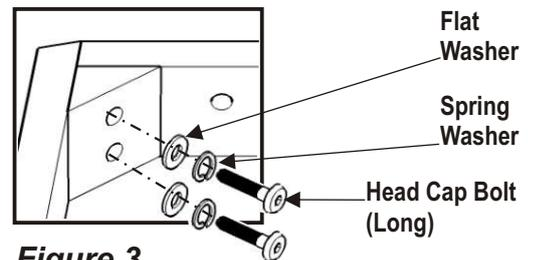

Figure 3
Attach the Back Frame (D) to the unit with Flat Washers, Spring Washers, Head Cap Bolts (Short), Head Cap Bolts (Long) and Wood Screws. (see Figure 2) and (see Figure 3)